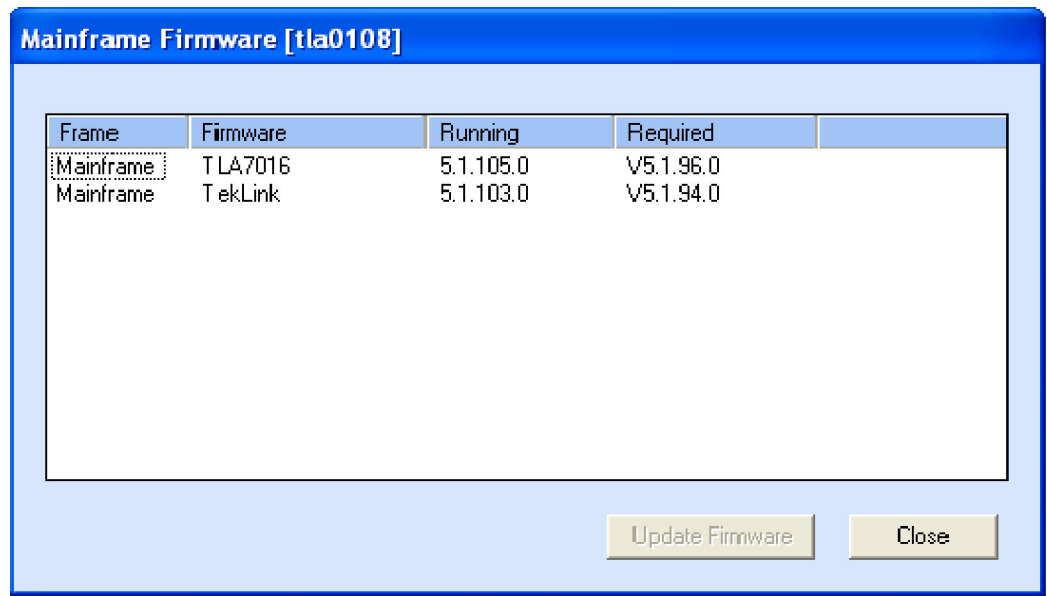

Figure 24: Mainframe Firmware dialog box
3. Click **Load** in the upper portion of the Load Firmware dialog box. The Mainframe Firmware dialog box opens. (See Figure 24.)